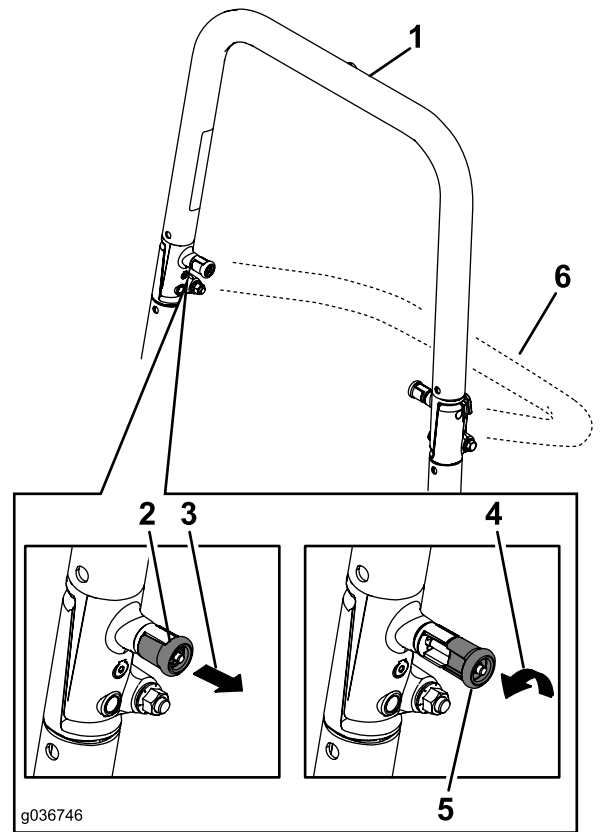

Figure 77
**Note:** The upper hoop of the roll bar may need to be pushed forward or pulled rearward to fully engage both knobs (Figure 77 and Figure 78).